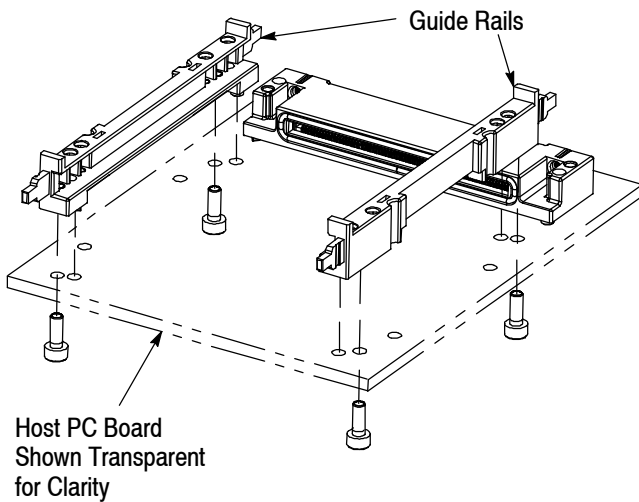

Figure 4
3. Place two rails on the host pc board such that the guide pins are inserted in the guide pin holes. Fasten the rails to the pc board with four M3 screws. Do not tighten the screws. Movement must be allowed prior to inserting the alignment aid. Refer to Figure 4. The installation can continue in either of two ways. See Section 3.1.
3. Place two rails on the host pc board such that the guide pins are inserted in the guide pin holes. Loosely attach the four M3 screws. See Figure 4.